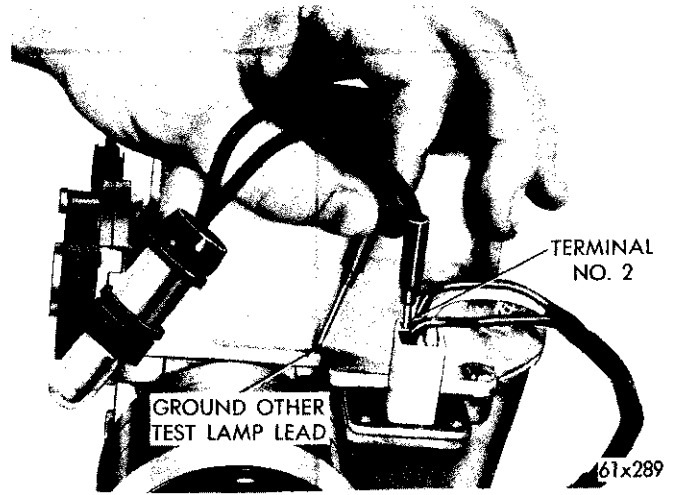

Fig. 16—Electrical Test (Terminal #2)
(2) Ground one lead of a test lamp and connect the other lead to terminal #2 (Fig. 16).
(3) If the lamp lights, the circuit is normal. If the lamp does not light, check for full brake pedal return. The brake pedal must return to normal for switch to operate. If the lamp still does not light, check for an improperly positioned or faulty brake switch.
(4) Remove the switch from its mounting bracket and lift it away from the brake pedal arm without disconnecting the wires. If the test lamp lights, the switch was improperly positioned. If the lamp does not light, the switch is faulty and must be replaced.
(5) To properly position the switch, it must be located so the test light will "go out" within the first 1/2 inch of brake pedal pad travel.
(3) Terminal #2—Ground one end of the test lamp lead and test terminal #2 (Fig. 16). If the lamp lights, the circuit is normal. If the lamp fails to light, the brake switch is faulty or improperly positioned. Test for full brake pedal return.